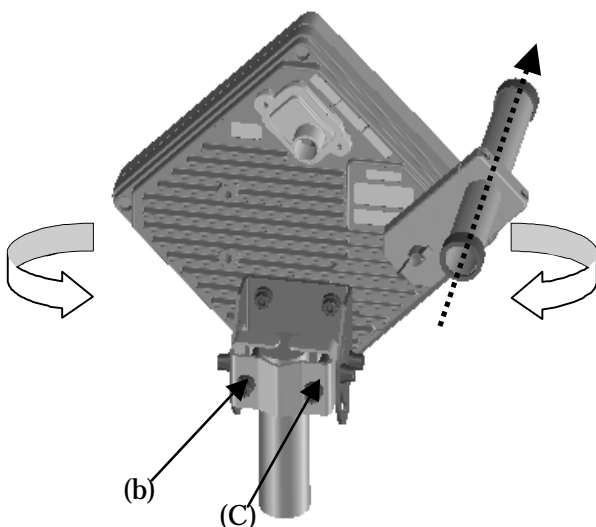
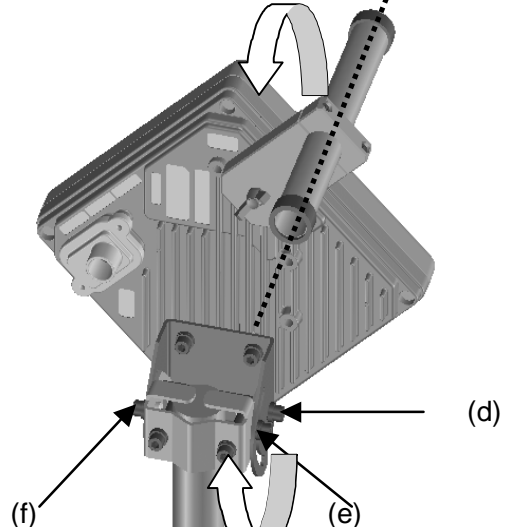

Figure 7-37 Rough-adjusting Horizontal Direction
Figure 7-38 Rough-Adjusting the Vertical Direction
- Step2 As shown in Figure 7-37, loosen the hexagonal socket head bolts (b) and (c) securing the mounting bracket and swing the antenna left or right. Adjust the antenna approximately for the WT direction and finger-tighten the bolts (b) and (c).
- Step3 As shown in Figure 7-38, loosen the bolts (d), (e), and (f) and tilt the antenna up or down. Perform vertical-direction adjustment so that the WT of the opposite station can be seen through the scope of the Antenna direction adjustment tool.
In Figure 7-37 and Figure 7-38 is an example when the antenna type is the horizontal polarization.